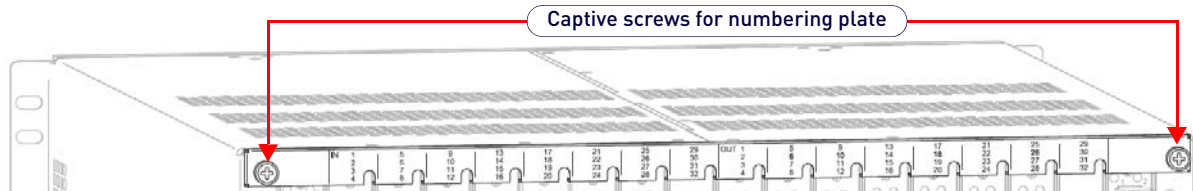

FIG. 89 Enova DGX 3200 only - two captive screws hold numbering plate above boards
2. **Enova DGX 3200 only** – Loosen the captive screw on each end of the numbering plate above the boards, and set the plate aside (FIG. 89):